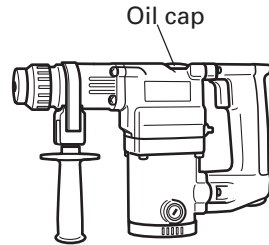

Fig. 19
- (1) Disassemble the oil cap and thoroughly wipe off the old grease inside. (Fig. 19)
- (2) Supply 17.5g (the standard volume to cover the connecting rod) of Hitachi Electric Hammer Grease A in the crank case.
- (3) After replacing the grease, reassemble the oil cap securely. At this time, do not damage or lose the O-Ring.